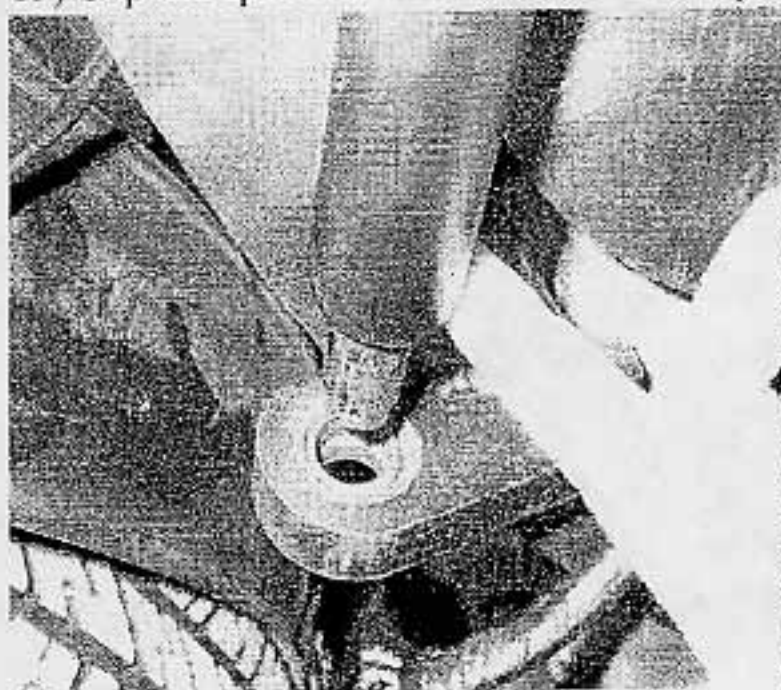

Figure 3
13) Slip the spherical rod mount into the spherical ball bearing. (Figure 3)